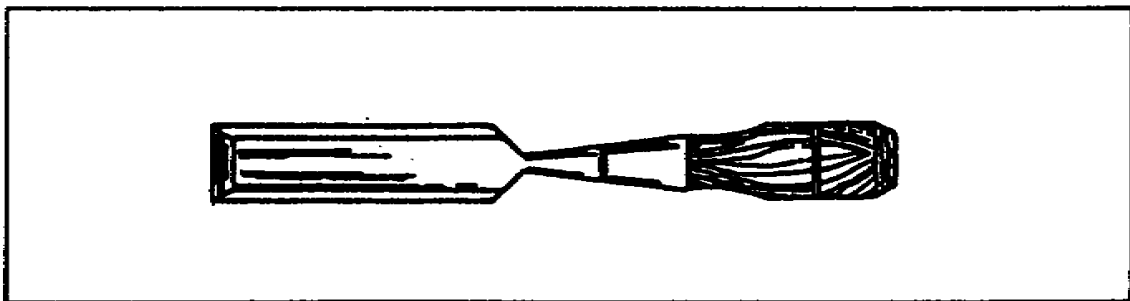

Figure 2-18. Firmer chisel
(2) Firmer Chisel. The *firmer* chisel (Figure 2-18) is more substantial tool than the paring chisel. It is usually used for routine work, but may be used for paring or light mortising. When paring, drive the chisel by hand pressure. For light mortising, use a mallet.